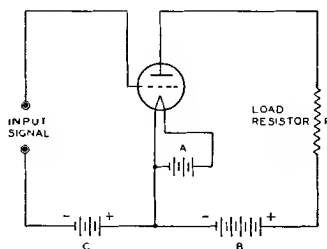

Fig. 5
The plate current flowing through the plate-load resistor (R) of Fig. 5 causes a voltage drop which varies directly with the plate current. The ratio of this voltage variation produced in the load resistor to the grid-input voltage is a measure of the voltage amplification, or **gain**, of the tube stage. This ratio is not the same as the amplification factor of the tube, but is determined by the combined effects of plate resistance, load resistance or impedance, and the amplification factor. The value depends on a number of factors. The load resistance required is the effective value. For example, in a resistance-coupled amplifier using a high resistance in the plate circuit, the effective value is also dependent on the resistance of the associated grid circuit of the next stage. The voltage amplification per stage due to the tube is expressed by the following convenient formulae: